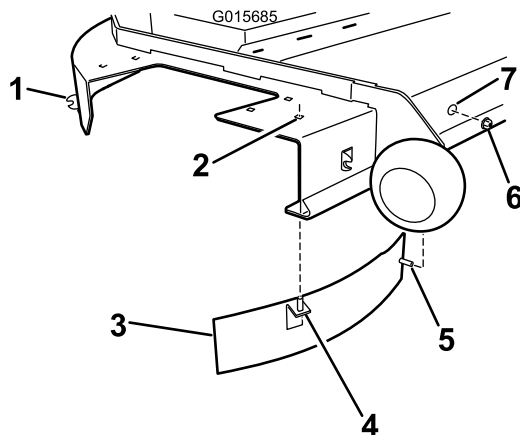

Figure 8
3. Install a baffle to deck (Figure 8). **For 48 inch decks, use a straight baffle. For 54 inch decks, use a curved baffle.** Align the vertical post in the baffle with forward hole in the deck. Rotate the baffle until the horizontal post aligns with the hole in the front wall of the deck. Secure it to the front wall of the deck using a lock nut.